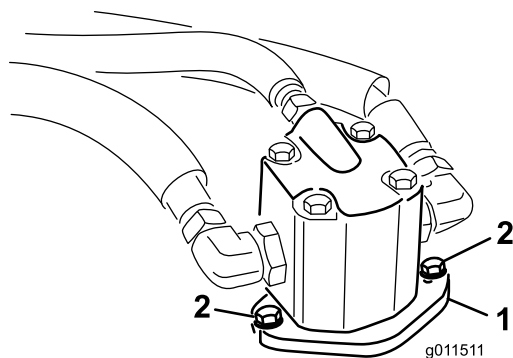

Figure 1
2. Remove the bolts securing the hydraulic motors to the deck (Figure 1). Lift the motors off the deck and lay them on a clean, out of the way, surface. Do not damage aluminium couplers.